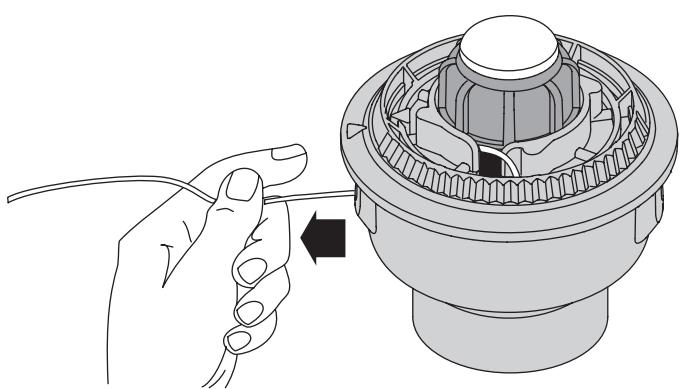

Fig. 15
- Pull the line from the outer spool until the line is tight against the inner reel (Fig. 15).